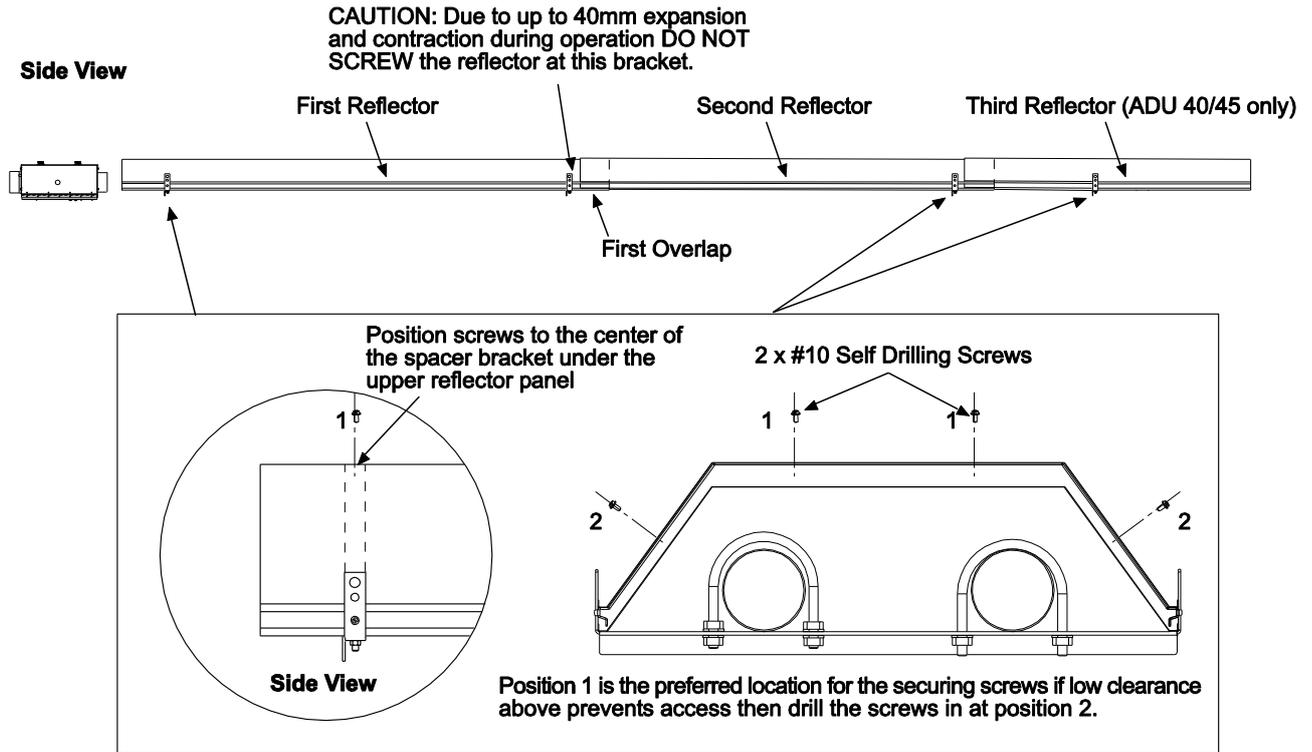

Fig. 21n
13. Secure the upper reflector panels to the reflector spacer brackets as shown in figure 21n below:
- II. Repeat this at each hanger bracket specified in figure 21n.